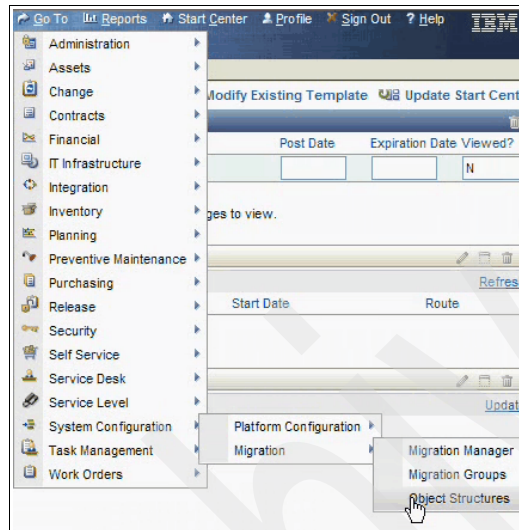

Figure 8-13 Migration menu - Object Structures
1. From the Go To menu, select **System Configuration** → **Migration** → **Object Structures**, as shown in Figure 8-13.